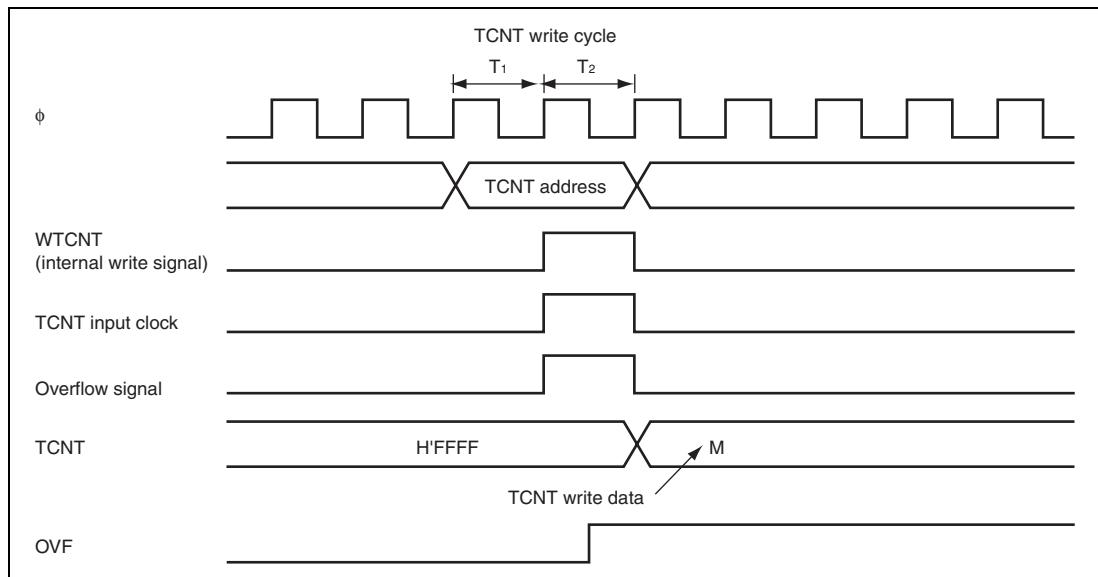

Figure 12.55 Contention between TCNT Write and Overflow
4. Contention between TCNT Write and Overflow/Underflow: If overflow/underflow occurs in the  $T_2$  state of a TCNT write cycle, TCNT write has priority without an increment operation. At this time, the OVF flag is set to 1. Figure 12.55 shows the timing in this case.